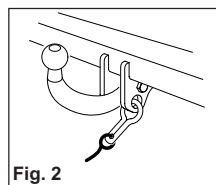

Fig. 2
- Attach the clip directly to the designated point (Fig. 2). This alternative must be specifically permitted by the trailer